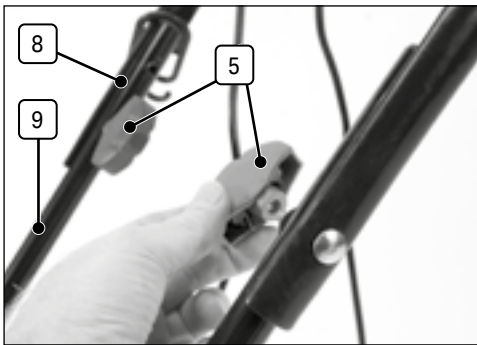

Fig. 4
6.3 Attaching Upper Handle 8 to Lower Handle 9 (Fig.4)